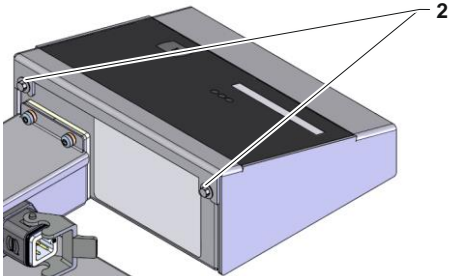

Fig. 6: Rear side of the evaluation unit
- Tighten screws (Label 2 → Fig. 6).